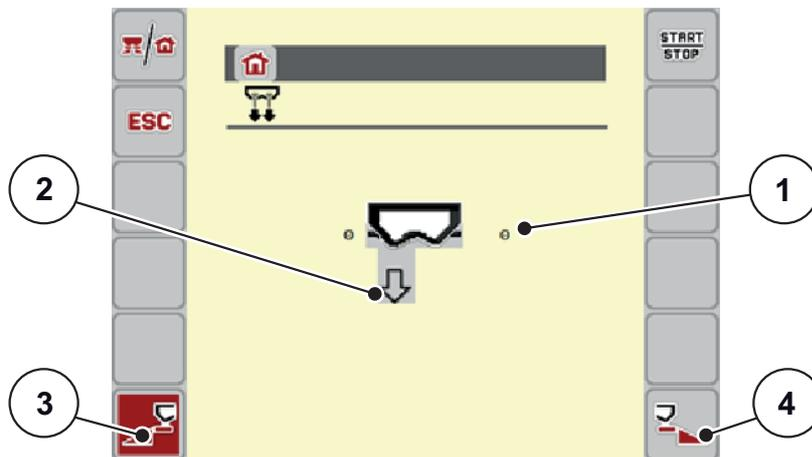

Figure 4.14: Fast emptying menu
- ▷ The selected spreading side is displayed as symbol (Figure 4.14, position [2]).